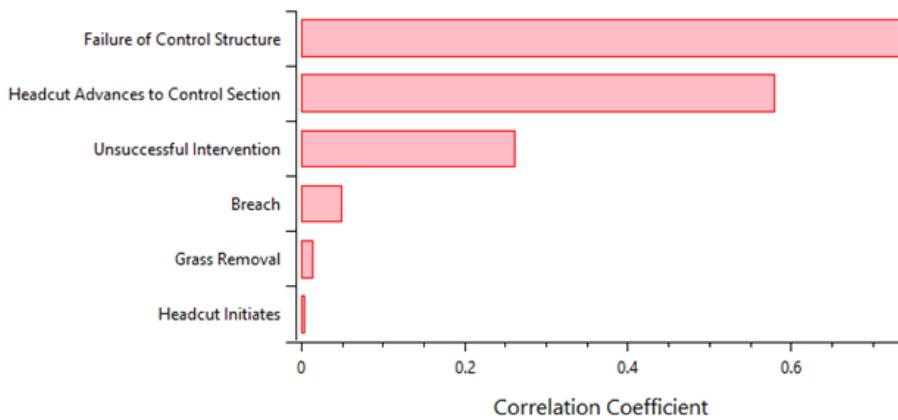

Figure 8.12: Event tree diagnostics tree node correlation to SRP plot.
- **Correlation to SRP:** Shows the Pearson correlation coefficients for how node probabilities correlate with the overall SRP. Chance nodes have a positive correlation with the SRP, whereas remainder nodes have a negative correlation. The absolute size of the correlation coefficient indicates the strength of the association with SRP. The nodal correlations to SRP display as a ranked tornado plot (Figure 8.12).